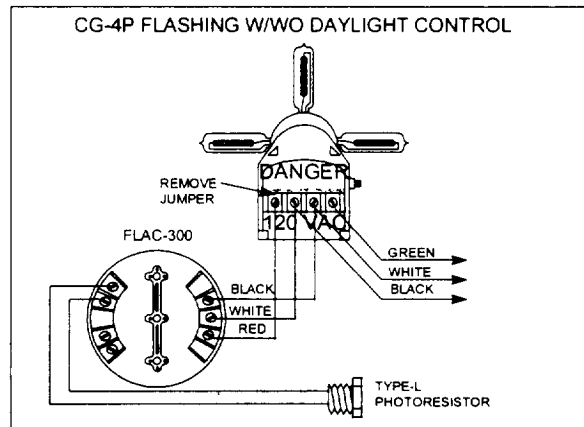

Figure 2-17
- m. If flashed, install a FLAC-300 and type-L daylight control, as shown in Figure 2-17.